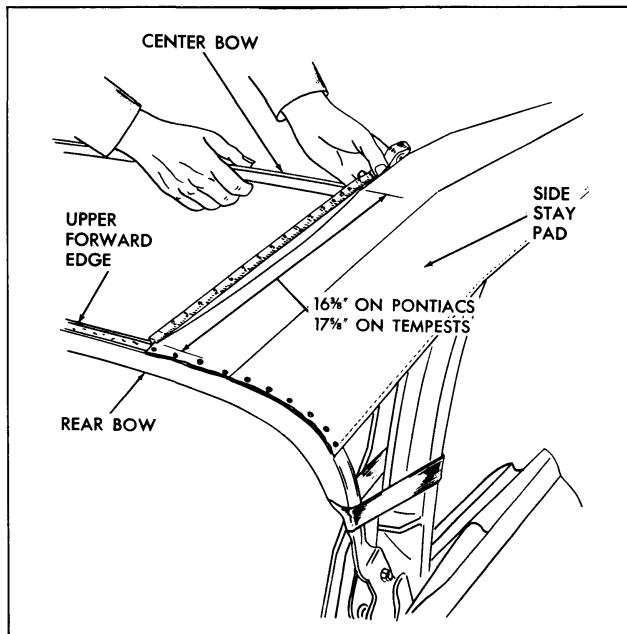

Fig. 21-23 Rear Bow Position
3. Trim selvage end of side stay pads just forward of rear rolled edge of rear roof bow (Fig. 21-23).